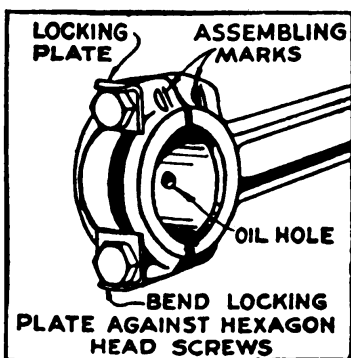

FIG. 22. CONNECTING ROD
and replace lock rings. The connecting rod is assembled to crankshaft with the oil hole in the lower bearing toward the magneto side (Fig. 22). The assembly marks on the connecting rod and bearing cap must be on the same side. Make sure that locking plates (171) are in place, and that cap screws are tight. Reassemble the engine by reversing the procedure for taking it apart.
i. *Oil leaks.*—If oil leaks from the magneto crankshaft bearing (147), remove the base (32) from the engine. Then remove the oil return valve (195) by unscrewing it from the magneto back plate (121). Clean or flush with Diesel oil and blow dirt particles from under the small disc. If the disc is damaged, replace with a new one.